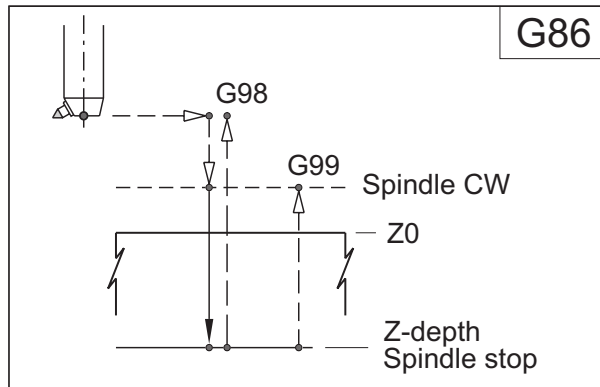

Figure 25-15
**WHEN TO USE G86 CYCLE - Figure 25-15 :**